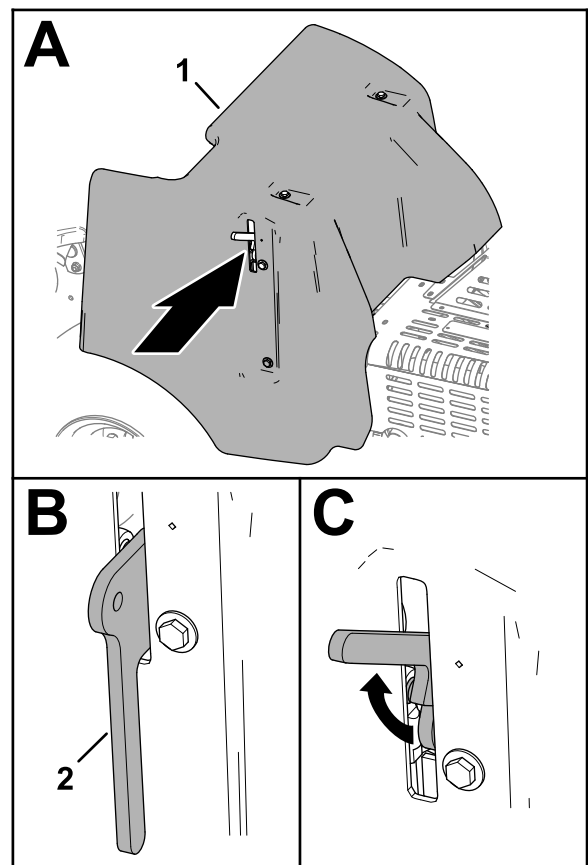

**Figure 131**
2. Lift the latch handle (Figure 131).